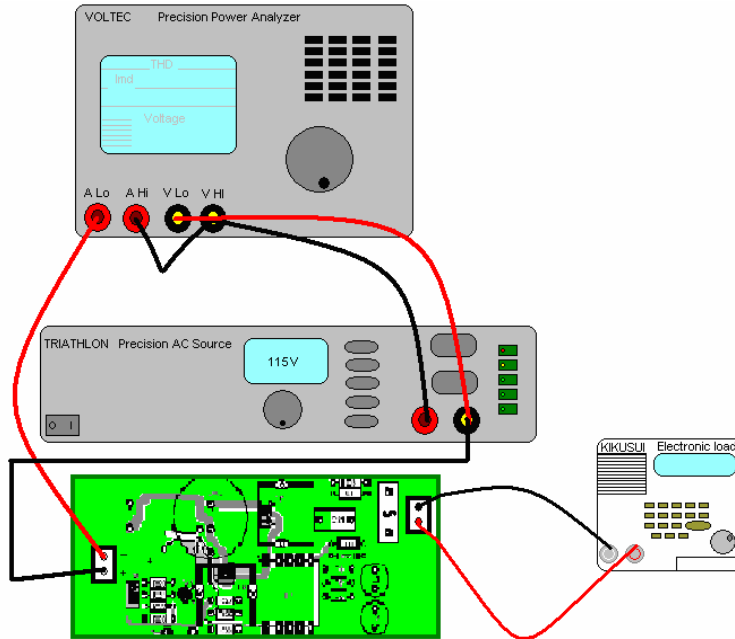

Figure 1: NCP1230 Test Setup
8. Connect the Voltec Precision Power Analyzer as shown in Figure 1.